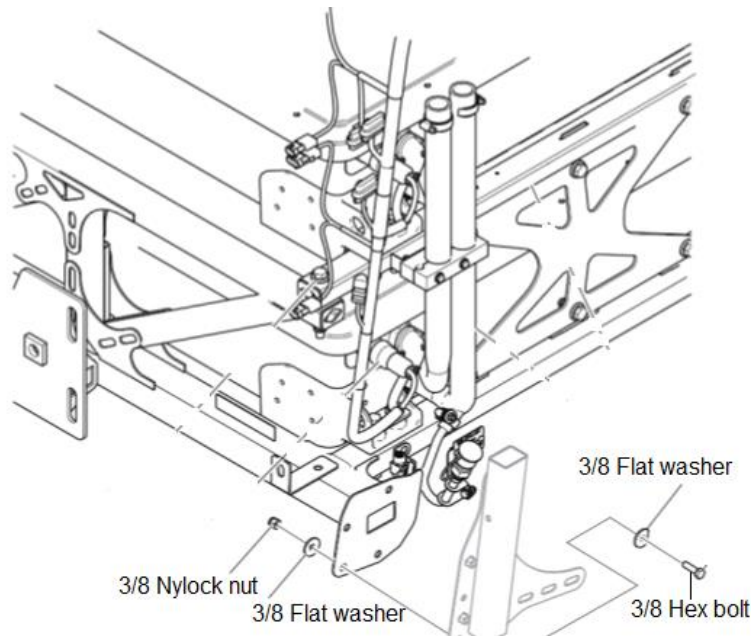

Figure 16: Secure corner pillar brackets to pillars reference.
29. Secure corner pillar brackets to pillars using existing 3/8 in. hardware on each side of bracket (3 each per side). Torque hardware to 28 ft-lbs. (38 Nm). Reference figure 16.